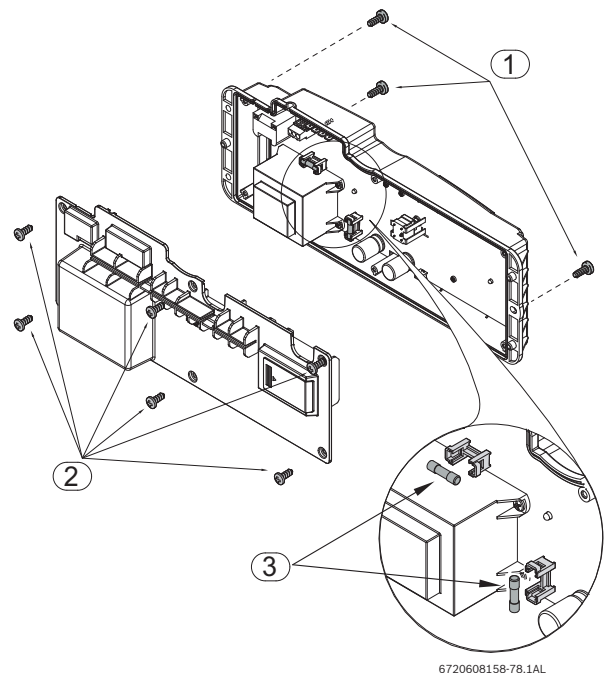

Fig. 35 Location of fuses
- Pull control unit free to access and remove the six screws from the back cover of the control unit, see Fig. 35, pos. 2.
- Check the fuses in the printed circuit board, see Fig. 35, pos. 3.